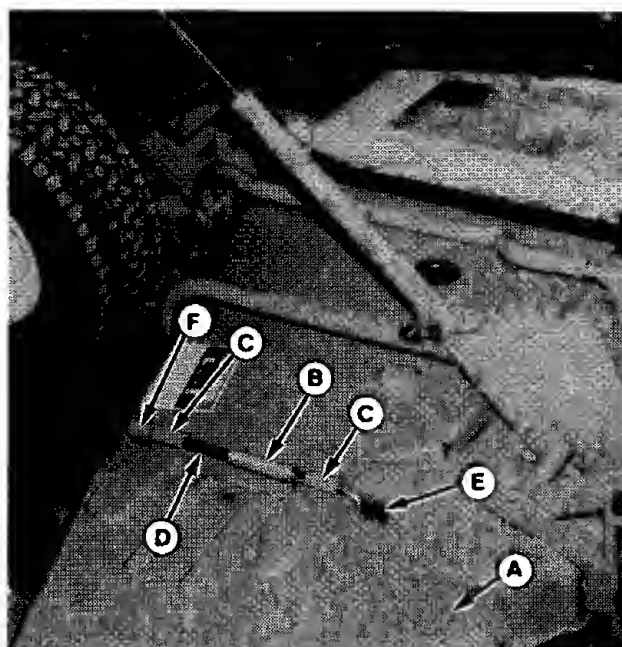

Figure 8.
1. Remove the deflector (A, figure 8) by removing carriage bolt (E, figure 8), lockwasher and nut. Save fasteners for re-installation.
2. Remove the rod (D, figure 8), spring (B), and clamp (F) from the deflector. These parts will not be used. The deflector will be reinstalled.
3. Remove the two brackets (C, figure 8) from mower deck by removing 3/8-16x7/8 carriage bolt, lockwasher and nut. Save fasteners for re-installation.